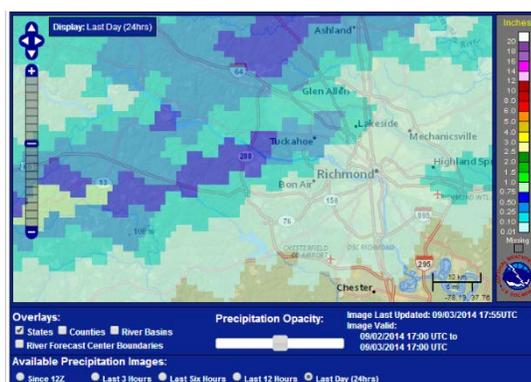

Figure 5. Sample Precipitation Summary
- ✓ Rainfall data can be gathered from the link below by navigating to the location of the campus on the map and selecting the last day or last 2 days. The map will depict rainfall precipitation ranges using a color scale (See Figure 5): http://www.srh.noaa.gov/ridge2/RFC_Precip/